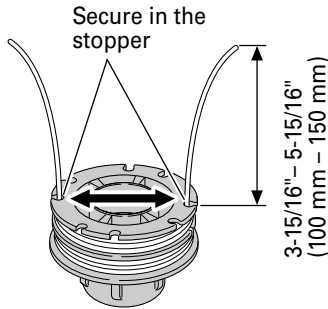

Fig. 26
- (5) Leave about 3-15/16" – 5-15/16" (100 mm – 150 mm) nylon cord unwound, hook and secure the line in the stopper. (Fig. 26)